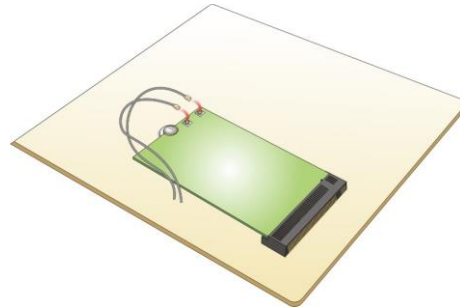

Figure 3-9: Connecting RF Cables
Step 5: Connect the two RF cables to the antenna connectors on the WLAN module (Figure 3-9).